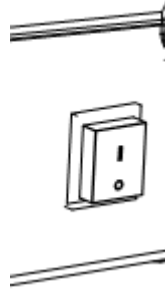

Figure.2
i. Turn the power switch to position I and check that the fan starts running correctly. (Fig 2.)